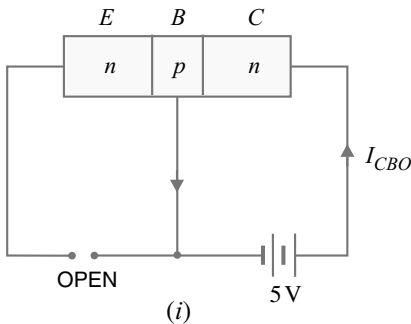

Fig. 6.23
**Solution.** When the emitter circuit is open [See Fig. 6.23 (i)], the collector-base junction is reverse biased. A small leakage current  $I_{CBO}$  flows due to minority carriers.
When base is open [See Fig. 6.23 (ii)], a small leakage current  $I_{CEO}$  flows due to minority carriers.